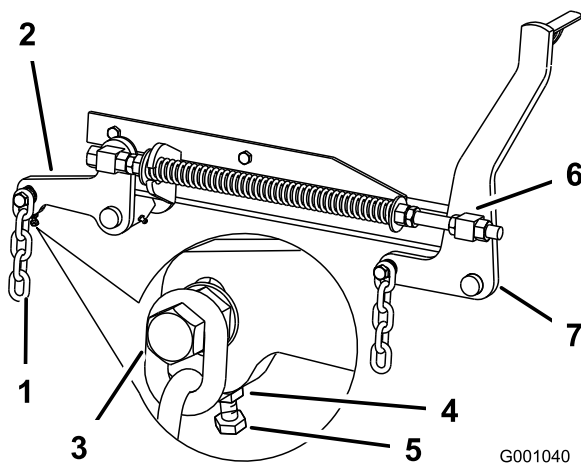

Figure 80
7. If the measurements at positions **B** or **C** are not correct, loosen the bolt attaching the rear chain to the rear support arm (Figure 80).
8. Loosen the jam nut under the rear support arm and adjust the adjustment bolt to get a measurement of 3-1/8 to 3-1/4 inches (80 to 83 mm) (Figure 80).
7. Loosen the front swivel jam nuts, at the front of the right and left swivels, approximately a 1/2 inch (13 mm) (Figure 80).
8. Adjust the lift nuts on both the left and the right side of the machine to achieve 1/4 to 3/8 inch (6 to 10 mm) lower in front at **A** than in the rear at **B** (Figure 80).